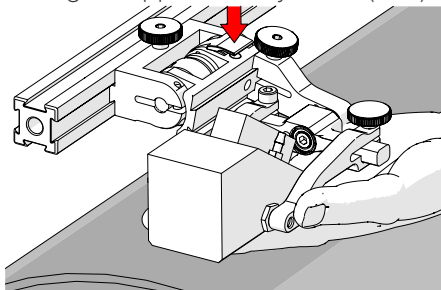

Fig. 51 - Lift and press latch button
3. Lift the probe slightly and press the latch button (Fig. 51) to apply spring pressure to the wedge.